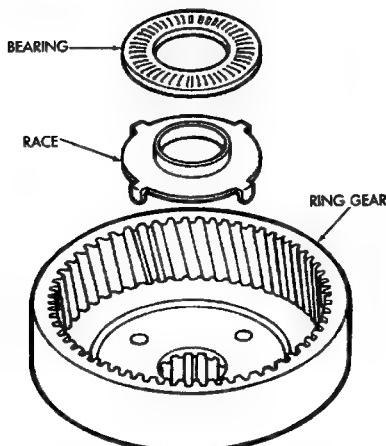

Fig. 22 Install Ring Gear Bearing And Race
(5) Coat planetary race with petroleum jelly and install it on planetary gear. Outside diameter of race is 41.8 mm (1.646 in); inside diameter is 27.1 mm (1.067 in).
(6) Install hub in planetary ring gear and install snap ring.
(7) Coat race and bearing with petroleum jelly and install in planetary ring gear (Fig. 22).
(8) Verify bearing/race size. Outside diameter of race is 47.8 mm (1.882 in); inside diameter is 24.2 mm (.953 in). Outside diameter of bearing is 46.8 mm (1.843 in); inside diameter is 26 mm (1.024 in).